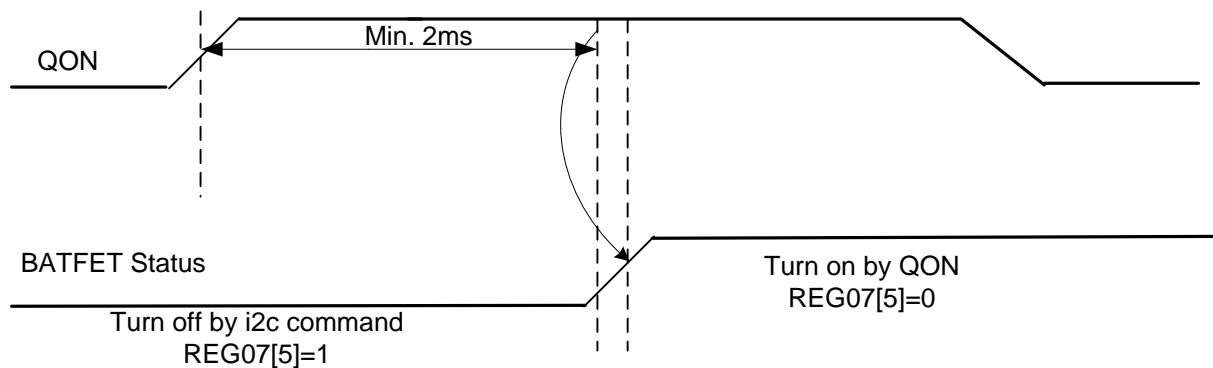

Figure 24. QON Timing
5. A logic low to high transition on QON pin (refer to Figure 24 for detail timing)